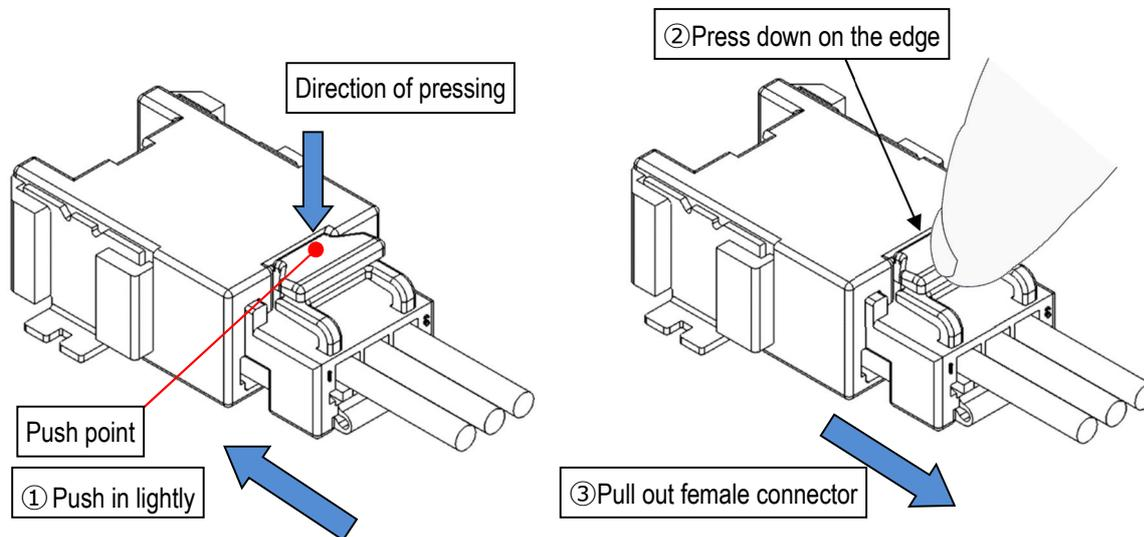

Fig.50. Lock arm
- ① Hold the female connector and push it in lightly.
- ② While holding the female connector in, press down fully on the end of the arm (see Fig. 50).
- ③ Keep pressing the lock down, and pull out the female connector.